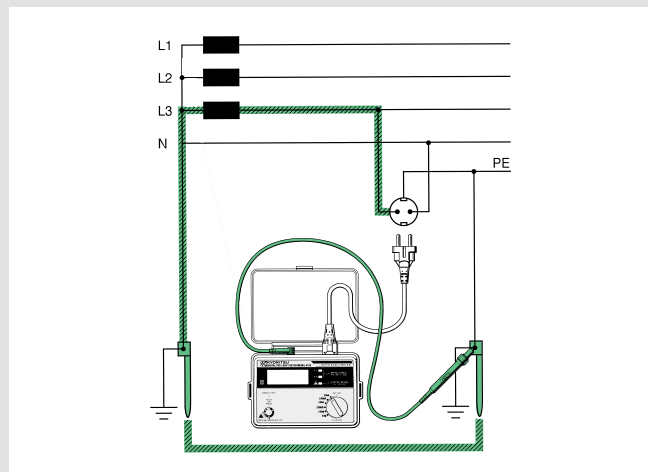

Fig.2 Measurement of earth fault loop impedance using external earth probe.
- Measurement of earth fault loop impedance using external earth probe. Fault loop impedance can be measured by touching an external probe directly to an earth bar, collector and connection point of the earth bar as illustrated in Fig.2. The same measurement can also be performed by touching the earth probe to the exposed, conductive parts of user's equipment installed in the indoor wiring circuits and its exposed metal parts.